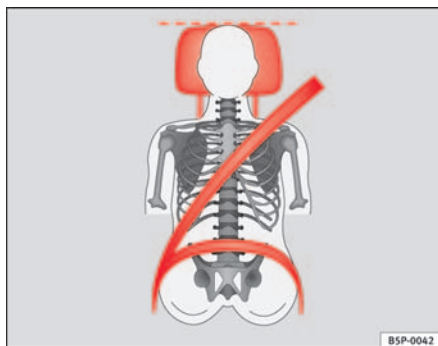
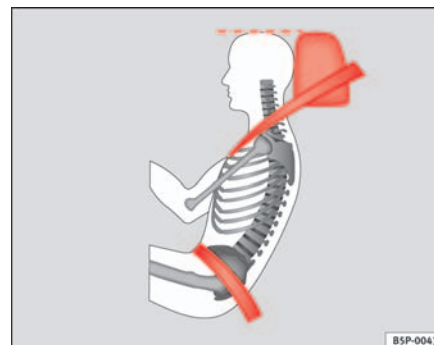

Fig. 84 Viewed from in front: Properly adjusted head restraints and proper belt adjustment
Fig. 85 Viewed from side: Properly adjusted head restraints and proper belt adjustment
- Adjust the head restraint so that its upper edge is at the same level as the top of your head ⇒ fig. 84 and ⇒ fig. 85.